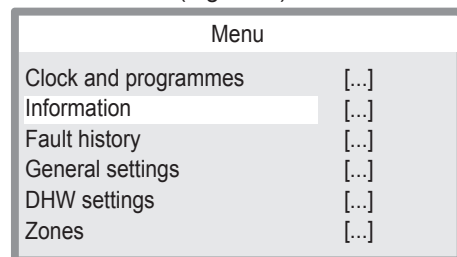

Fig. 3.17
- Press key 12 or 13 (Fig. 3.15) to select the desired menu (Fig. 3.17).